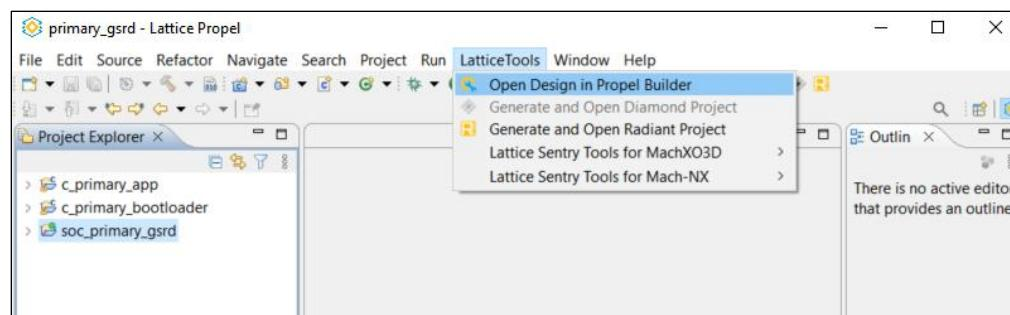

Figure 8.38. Open Propel Builder
1. Select the soc project and Launch Propel Builder from Propel SDK as shown in Figure 8.38, if it is not already opened.